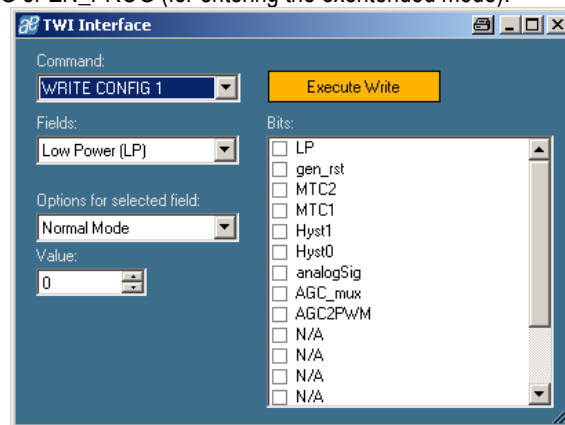

Figure 17: Communication command window
- Digital interface opens an additional window (see Figure 17), which provides all communications commands like WRTIE_CONFIG or EN_PROG (for entering the extended mode).